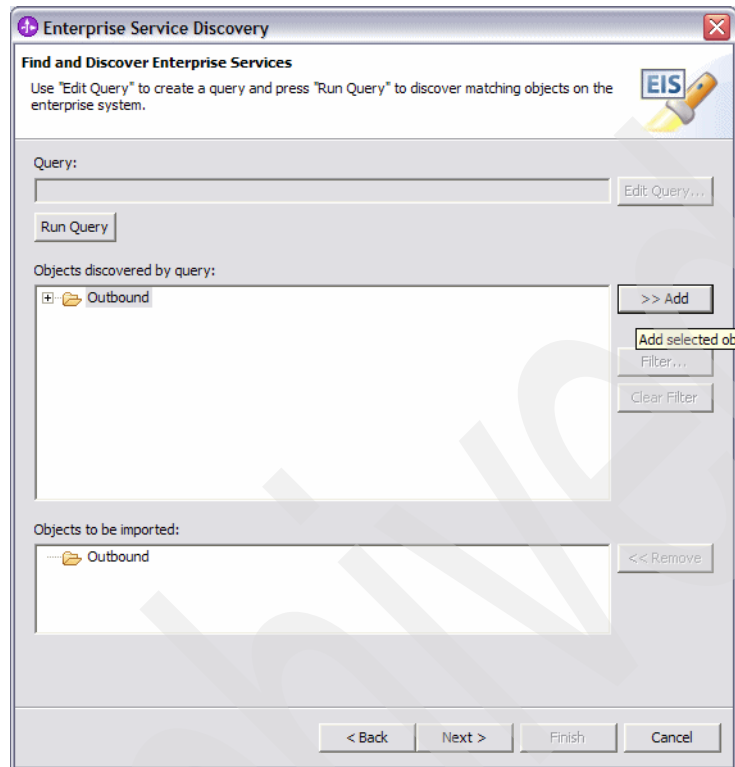

Figure 2-8 Select discovered objects
6. Click > **Add** (Figure 2-8).